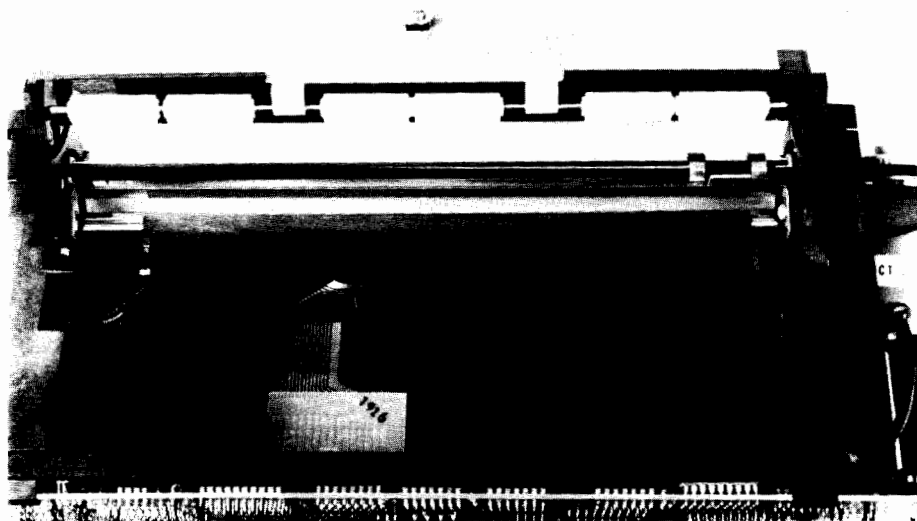

Figure 7-19. Print Head Assembly in Place
8. Make similar fold in flex cable as in defective flex cable and route along TPM trough. (See figure 7-19.)